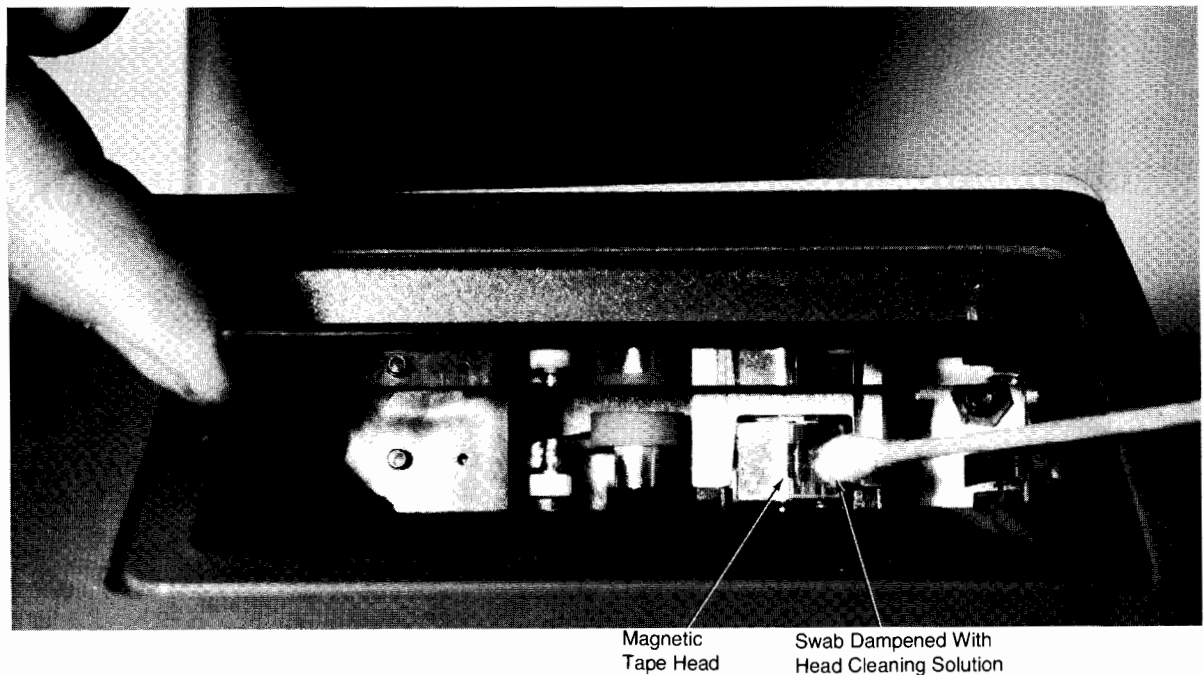

Figure 3-24: Cleaning the Tape Head
2. Clean the tape head with a cotton swab that has been dampened with head cleaning solution (see Figure 3-24). Wipe the face of the tape head a few times with the cotton swab. Remove any other dust that has accumulated in the vicinity of the tape head.